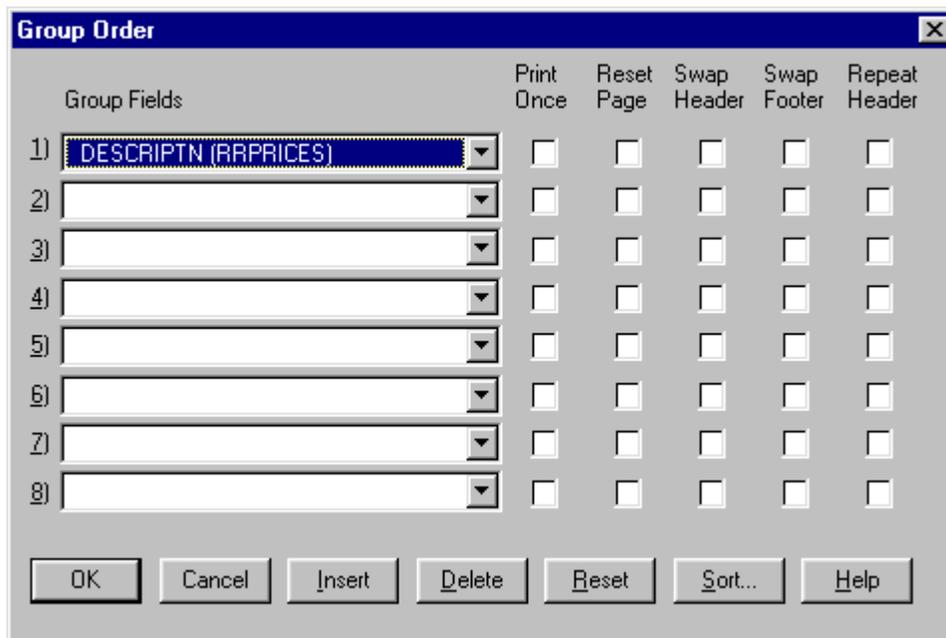

Figure 11.3 Group Order Dialog Box
1. Select Database ⇒ Group Order, the Group button, or the Group button in the Sort dialog box to display the Group Order dialog box (see Figure 11.3).